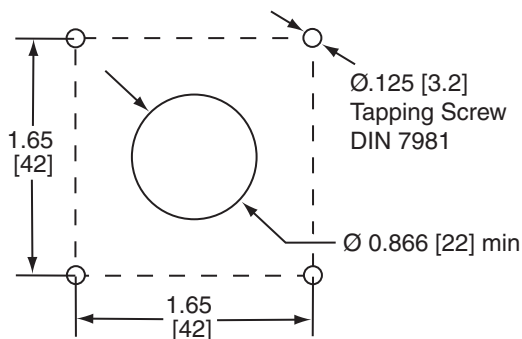

FIGURE 1: Drilling Dimensions for Duct Mount Units
1. Drill four 1/8" (3.2 mm) diameter holes for the mounting screws in the locations shown in Figure 1.
2. Cut a 0.866" (22 mm) diameter hole in the duct for the sensor in the location shown in Figure 1.